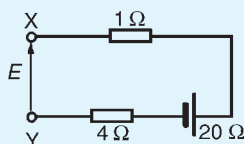

Figure 13.95
11. The open-circuit voltage E across terminals XY of Fig. 13.95 is: